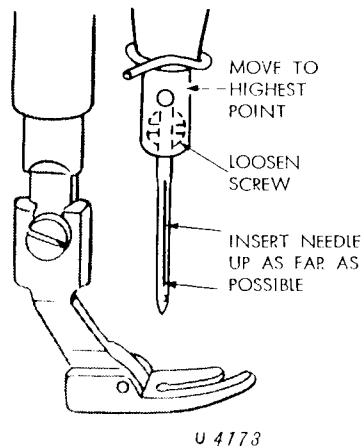

Fig. 5 Setting the Needle
After loosening needle set screw, insert needle UP into needle bar AS FAR AS IT WILL GO, as instructed in Fig. 5.
The single continuous groove of the needle MUST face the left end of the machine, as shown in Fig. 5.
**NOTE:** The needle is held in place in Machine 291U3 by means of a needle clamp instead of by means of the set screw in the needle bar as in Machine 291U1, illustrated in Fig. 5.